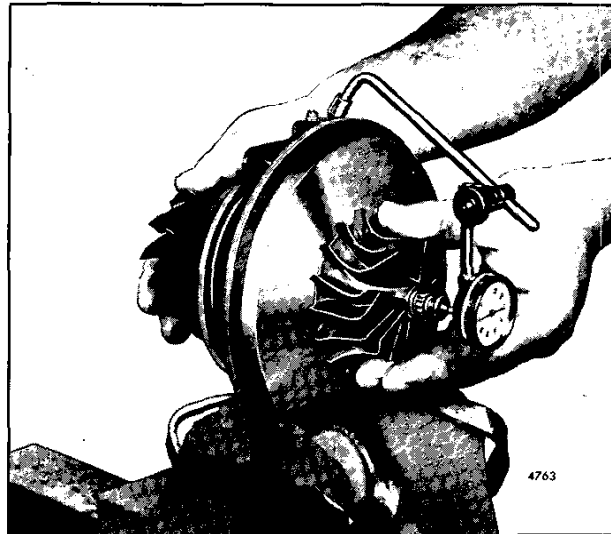

Fig. 25 - Checking Bearing Axial End Play
- a. Clamp the center housing assembly in a bench vise equipped with soft jaws as shown in (Fig. 25).